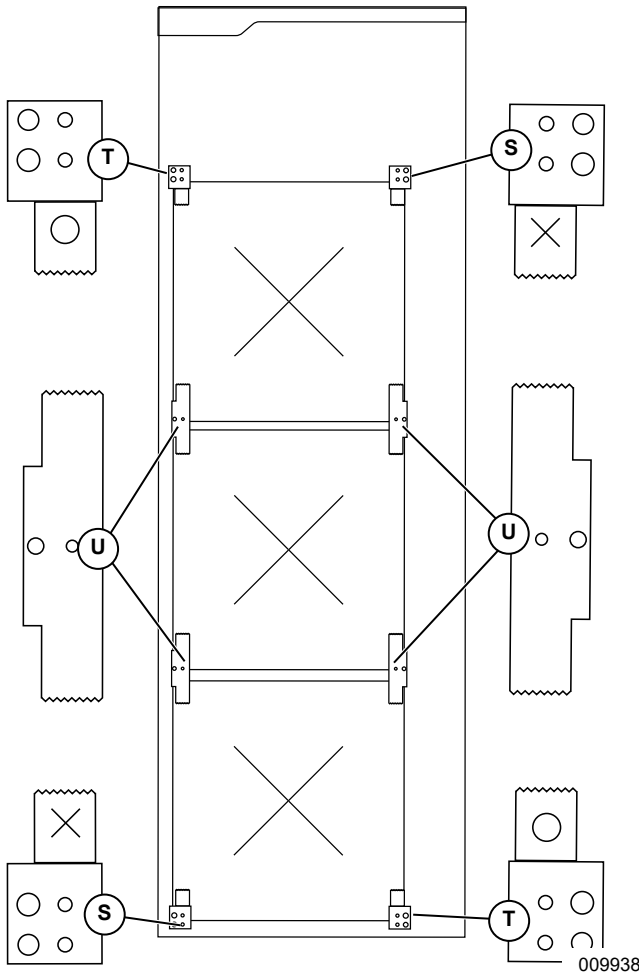

Figure 4-20. Installing Retention Clips (2 of 3)
See **Figure 4-20**. Note that there are three types of retainer clips: double retention clips (U), single retention clips marked O (T) and single retention clips marked X (S).
- Install single retention clips (T) (S) at the top and bottom of the stack.
- Install double retention clips (U) between rows of modules.